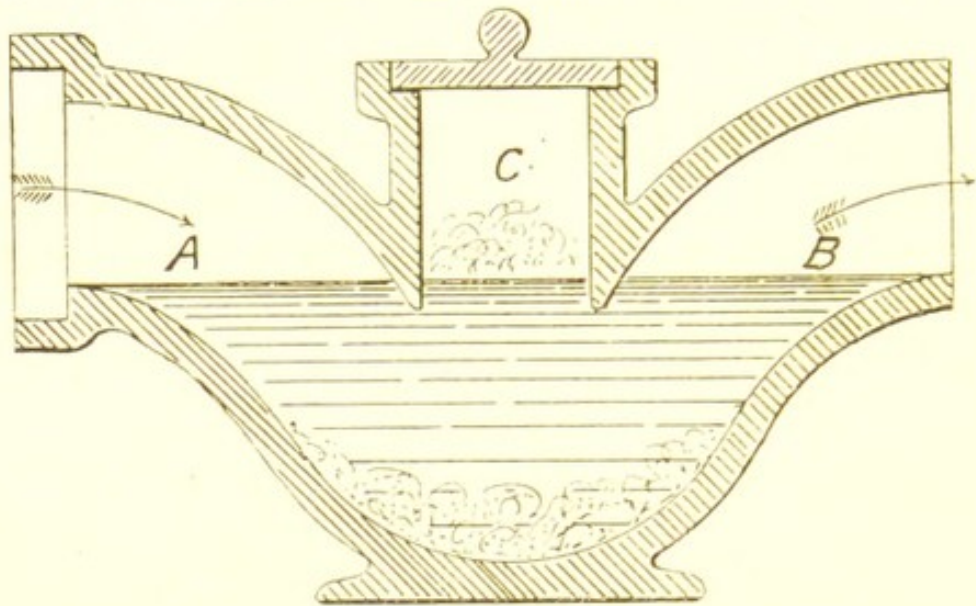

FIG. 14.
*The Drain Siphon* (Fig. 14) or running trap is also a very bad form of trap, though preferable to the above. It is not self-cleansing, the flow of water through it being very sluggish; this results from having its inlet *A* on same level as outlet *B*; there should be at least 3 in. difference between these levels, in order to form a good cascade for keeping it clean.